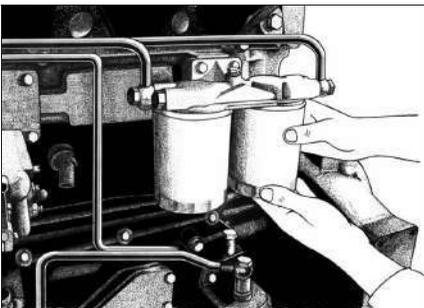

Fig 5-44 Replace Oil Filter Element
5.9 Replace the oil filter element regularly as specified procedures. First of all, close oil supply switch. Clean the oil and dirty outside diesel fuel filter housing. Remove the filter. Check the seal with filling oil after new filter is installed. Do not use the old element to avoid the faults due to injector nozzle pair damaged (see Fig 5-44).